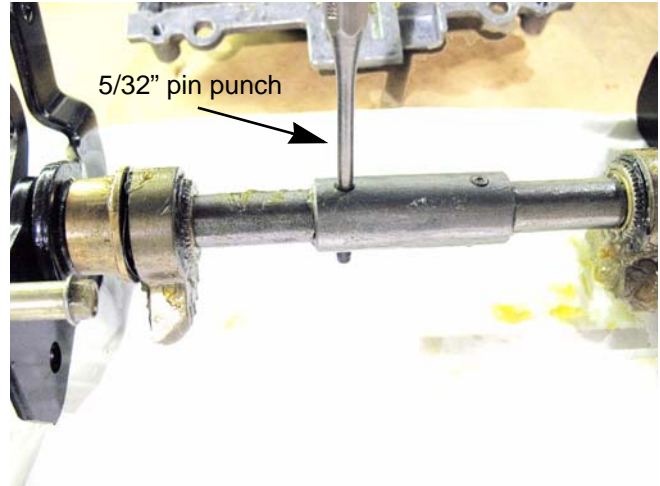

Figure 6.35
9. Separate the speed cam assemblies by driving out the two roll pins using a 5/32" pin punch and a hammer. See Figure 6.35.